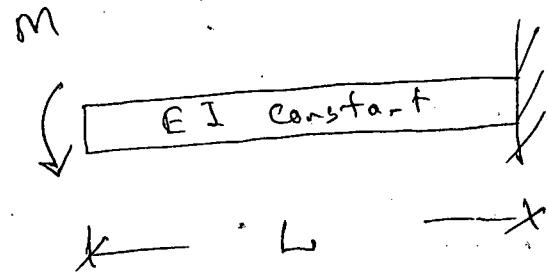

Fig: 8
9. A bending moment M is applied at the free end of the cantilever beam of length L as shown in Figure 8. Find the equation of the elastic curve. Given: the beam has a constant flexural rigidity of EI . (14)